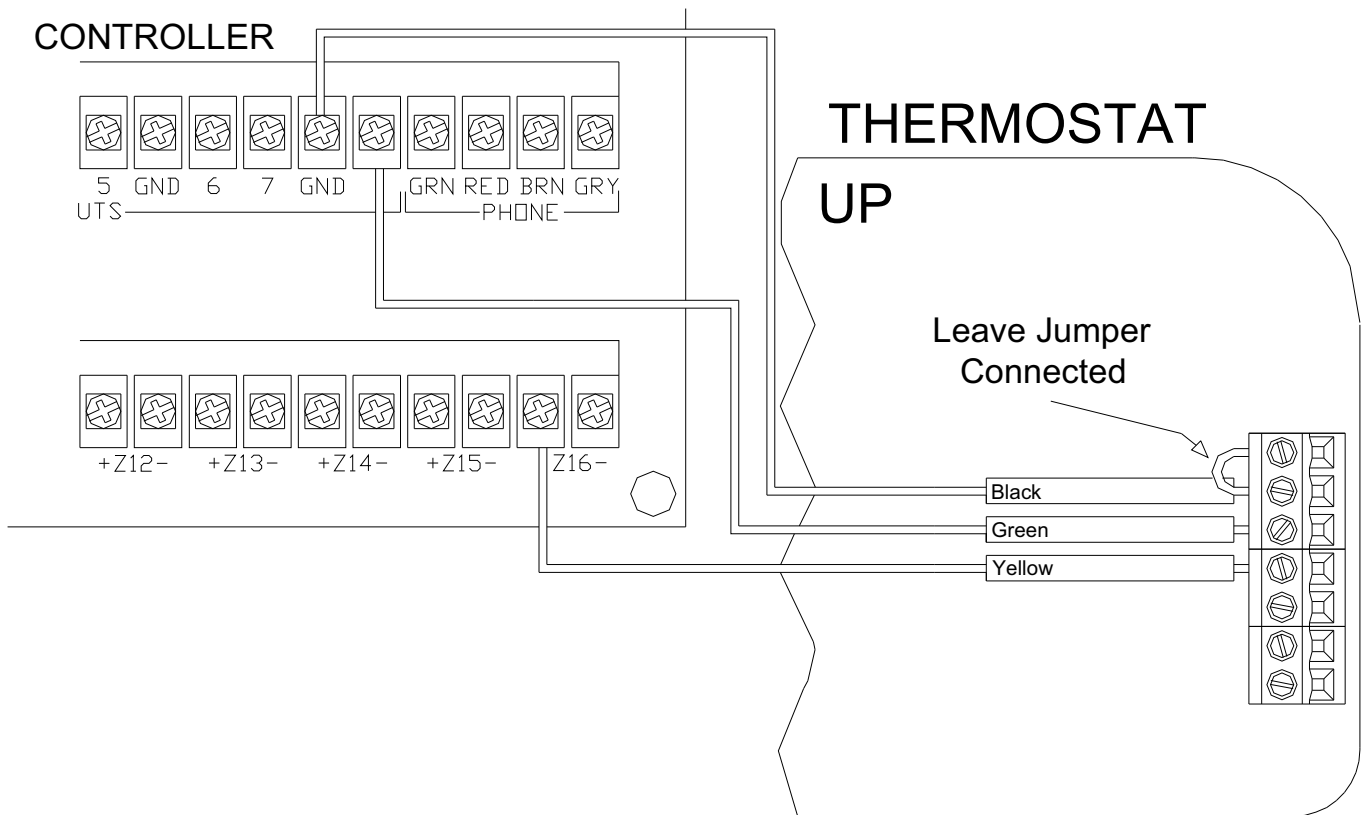

Figure 8 – Connections to HAI Home Control System
If a remote system or temperature sensor is being used with the thermostat, connect the remote system or temperature sensor wiring per the diagram for the application - **See Figures 8 - 10.**
Run a 3 (or 4) conductor wire from the HAI system to the thermostat location. All thermostats on an HAI Home Control system are connected to Ground, Zone +16, and Output 8 - See Figure 8.
2. When connecting to an HAI Home Control System, the metal jumper between terminal labeled “N/C” and the terminal labeled “Black” on the right terminal strip must remain in place – See Figure 8.